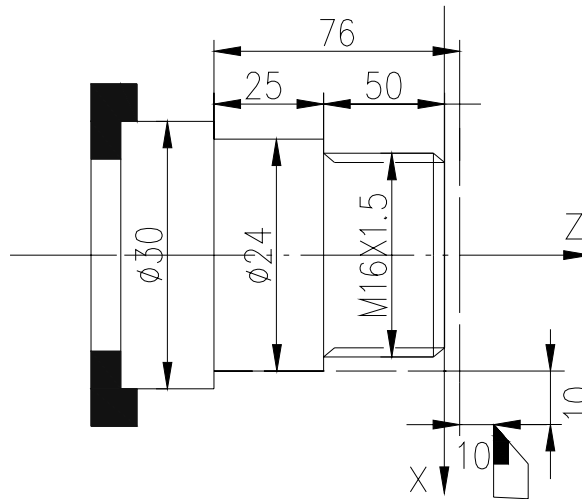

Fig. 5-3 Thread machining example
**Example 2:** as Fig. 5-3. Bar: Φ30×100 mm, No. 1 is roughing tool, No. 3 is parting tool, No. 4 for 60° threading tool.